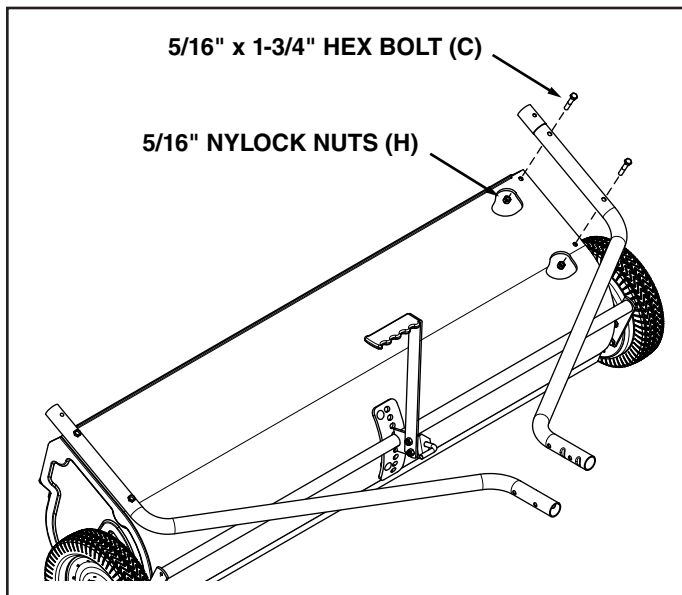
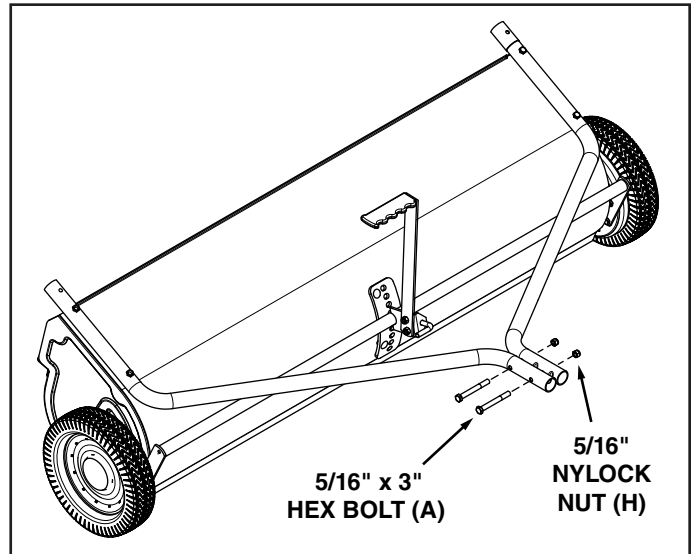
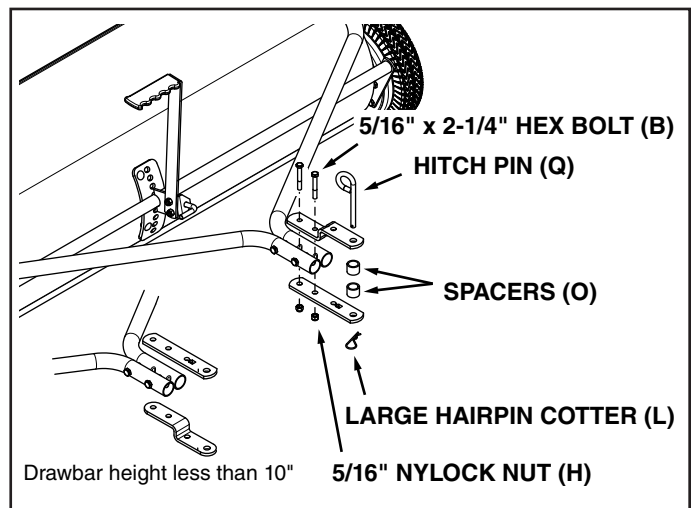

FIGURE 2
FIGURE 3
FIGURE 4
7. **Tighten** all loose bolts and nuts as follows: Tighten the bolts and nuts assembled in figure 2. Tighten the bolts and nuts assembled in figure 3. Tighten the bolts and nuts assembled in figure 4.